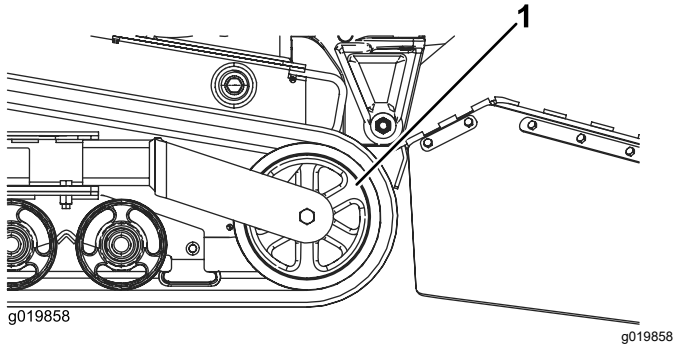

Figure 48
5. Push the tensioning wheel rearward as far as it will go (Figure 48).
7. When the track is off of the tensioning wheel, remove it from the machine (Figure 48).